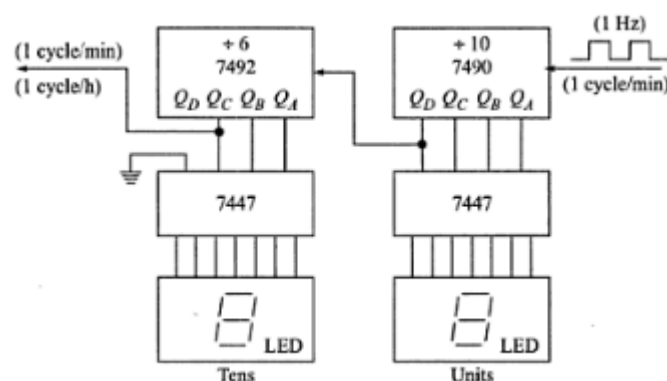

Figure 10.42: A 10*6 mod-60 counter with units and tens decoding
- In figure: 10.42, the 7492 is connected as a divide-by-12 counter, but only outputs QA, QB & QC are used. In this fashion, the 7492 operates essentially as a divide-by-6 counter.
- Since both the 7490 & 7492 count in the straight 8421, a 7447 decoder-driver can be used with each to drive two 7-segment indicators (Figure: 10.42)